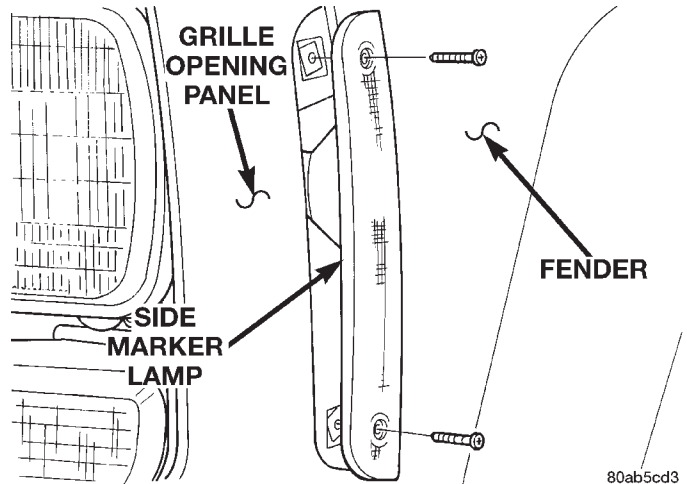

Fig. 5 Side Marker Lamp
- (1) Remove screws attaching side marker lamp lens to grille opening panel (Fig. 5).
- (2) Remove bulb and socket from back side of lamp.